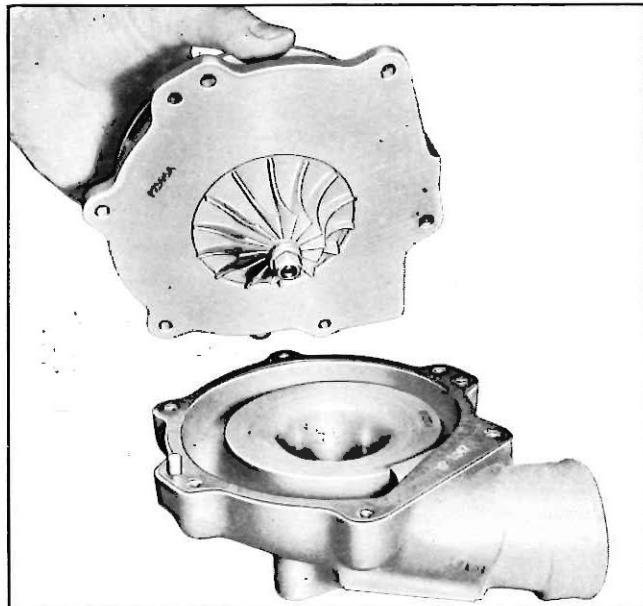

Fig. 21—Removing Compressor Housing
1. Remove the six bolts that secure the compressor housing to the bearing housing, then remove the compressor housing and gasket (fig. 21).